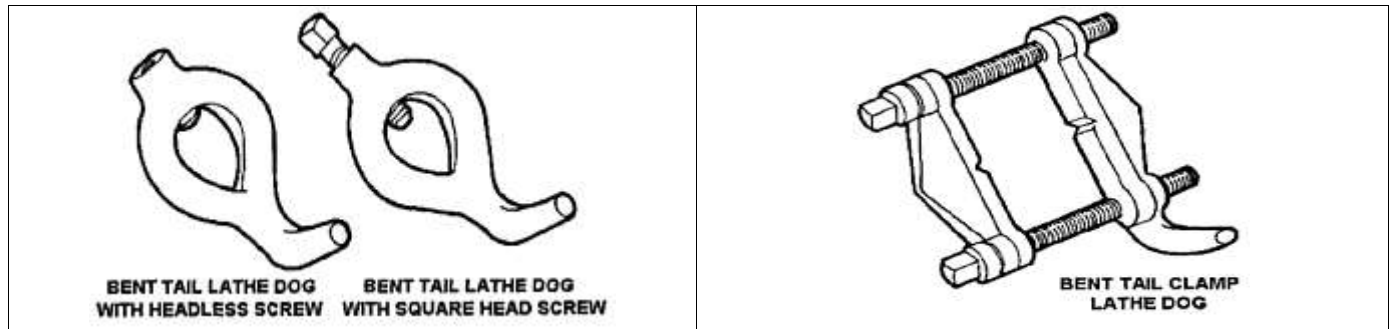

Figure 7-25. Lathe dogs.
**Lathe Dogs:** Are cast metal devices used to provide a firm connection between the headstock spindle and the workpiece mounted between centers. This firm connection permits the workpiece to be driven at the same speed as the spindle under the strain of cutting. Three common lathe dogs are illustrated in Figure 7-25. Lathe dogs may have bent tails or straight tails.